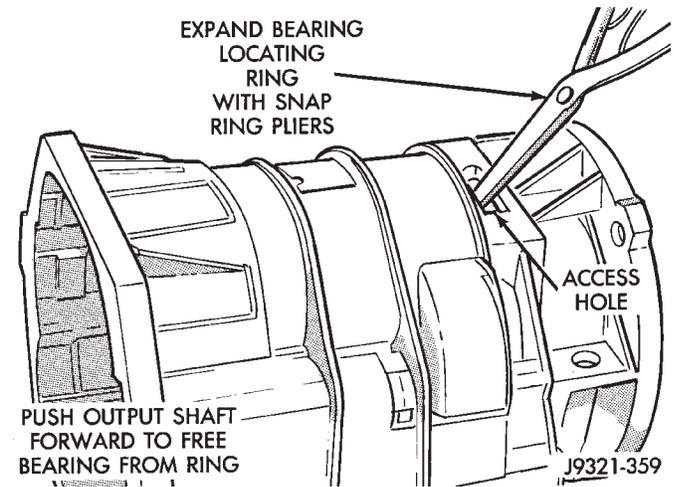

Fig. 257 Seating Locating Ring In Rear Bearing
(9) Expand front bearing locating ring with snap ring pliers (Fig. 257). Then slide case downward until locating ring locks in bearing groove and release snap ring.